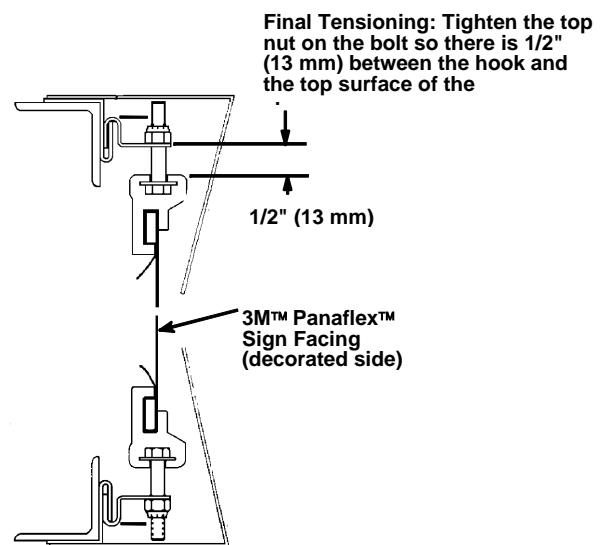

Figure 15. Final Tensioning
- b. Tighten the locking nuts on all wedge clamps around the sign face until the distance between the hook and the top of the wedge clamp is 1/2 inch (13 mm). See Figure 15.